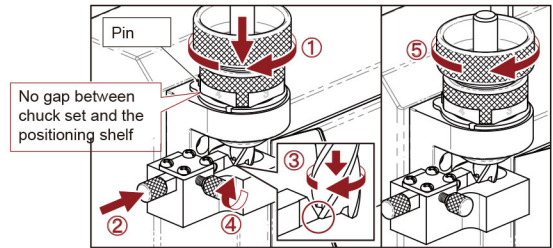

Fig. 3-2
2. End mill positioning (Fig. 3-2) :
- ① Align the slot of the clamping nut to the pin on the positioning shelf, insert the chuck set into the positioning shelf and fit them with no gaps, then turn the chuck set clockwise until it stops by the pin.
- ② Slowly move the alignment block inward.
- ③ Push the end mill to the end, slowly turn it clockwise until the outer corner of the end mill's cutting edge touches the tip of the alignment block.
- ④ Tighten the set screw to lock the alignment block.
- ⑤ Turn the collet holder clockwise and tighten the chuck set to secure the end mill.